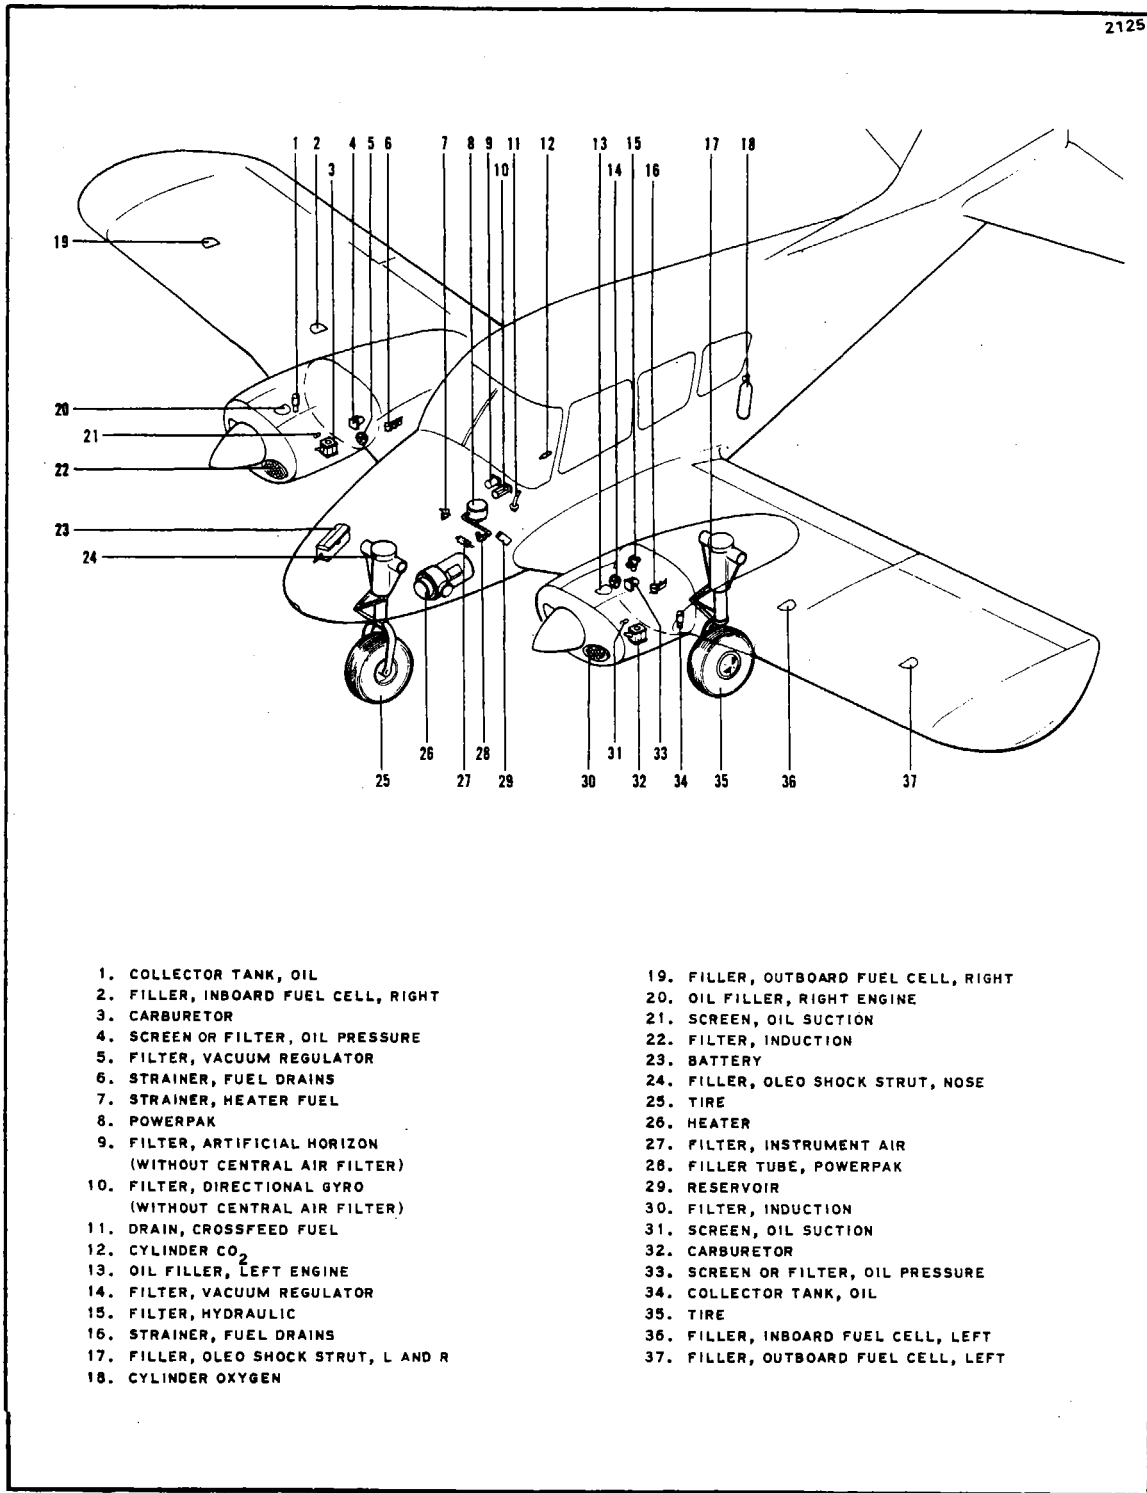

Figure 2-19. Service Points. PA-23-250 and PA-23-235
- f. Add fluid to the system through the filler tube (refer to Figures 2-19, 2-20 or 2-21) until fluid drips from the overflow located in the nose gear wheel well.
- c. Remove the filler tube cap (refer to Figures 2-19, 2-20 or 2-21) and swivel the elbow down.